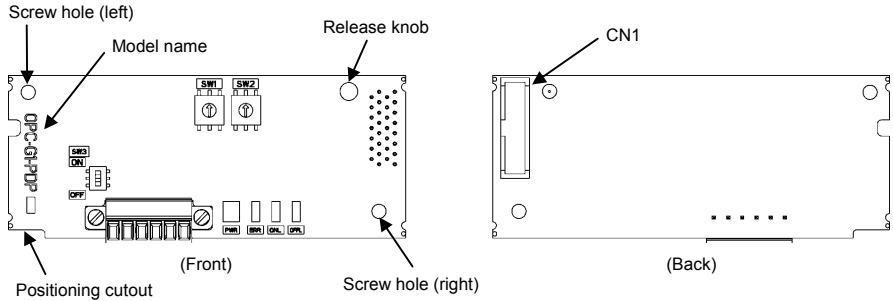

Figure 1.1 Names of Parts on PROFIBUS-DP Communications Card (OPC-G1-PDP)
- (1) A communications card, two screws (M3 × 8), and the PROFIBUS-DP Communications Card Instruction Manual (this document) are contained in the package.
- (2) The communications card is not damaged during transportation--no defective parts, dents or warps.
- (3) The model name "OPC-G1-PDP" is printed on the communications card. (See Figure 1.1.)
- (2) Insert connector CN1 on the back of the communications card (Figure 1.1) into the A-port (CN4) on the inverter's control PCB. Then secure the communications card with the two screws that come with the card. (Figure 3.3)